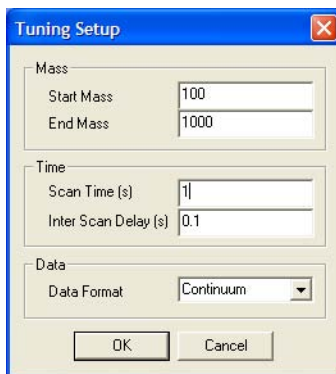

Figure 2-5 Tuning Setup Dialog Box
10. Select Peak Display > Setup Scope to open the Tuning Setup dialog box. Ensure the values match those in Figure 2-5.